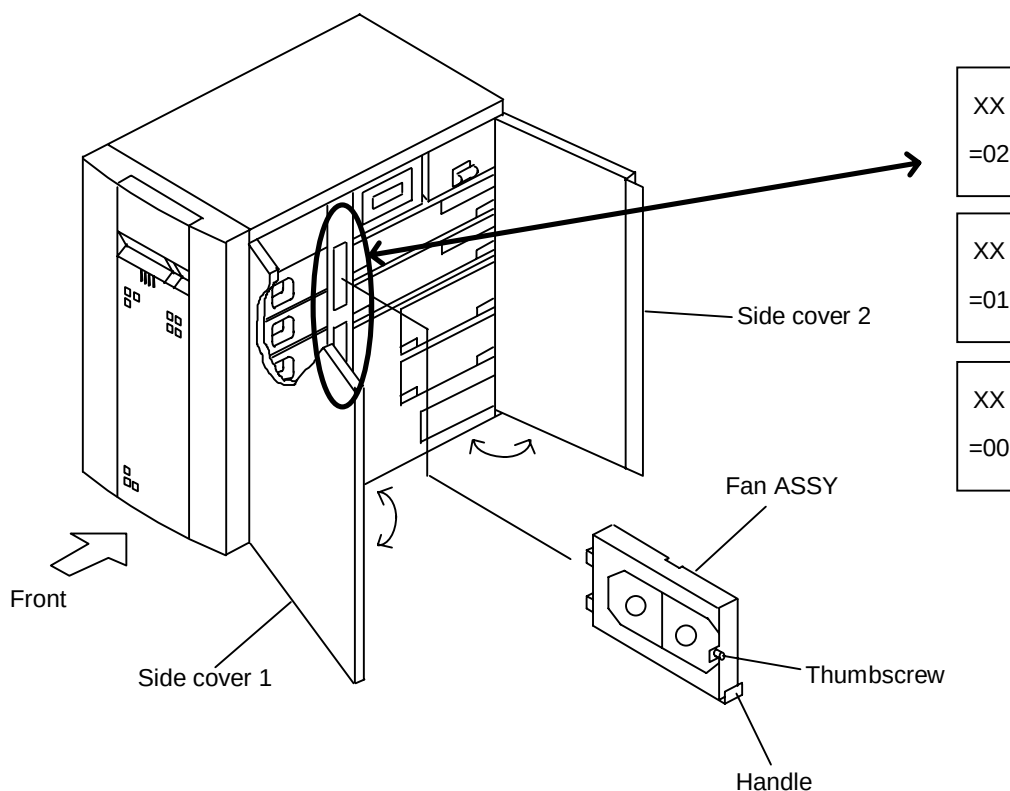

Figure 5.1 Replacing Fan ASSY
5. Replacing Fan ASSY (See Figure 5.1.)